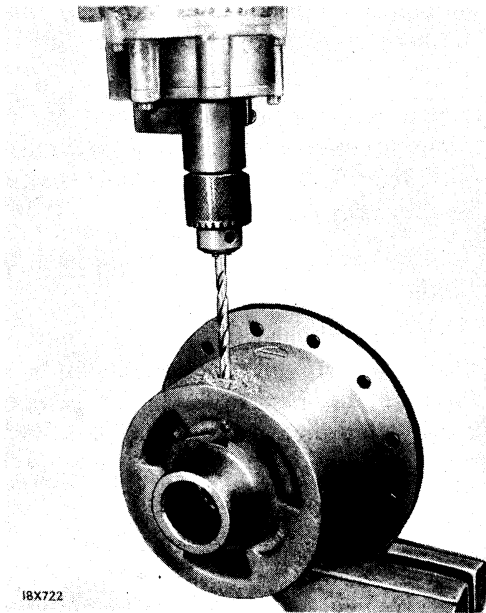

Fig. 21—Removing Differential Case Cap Lock Pin
- (1) Mount the flange of the differential case in a vise equipped with copper jaws.
- (2) Remove differential bearings with puller. On Model C-70 use Number 83 adapter and Number 41 plug, puller set Tool DD-914.
- (3) Remove the differential case cap locking pins by center punching and drilling, as shown in Figure 21. Remove shell of pin left in hole with a punch. The differential case cap is .001 to .002 inch larger than the differential case body in which it fits. The case must be expanded by heating for easy removal of case cap. The case will be damaged, if any attempt is made to remove cap without heating.